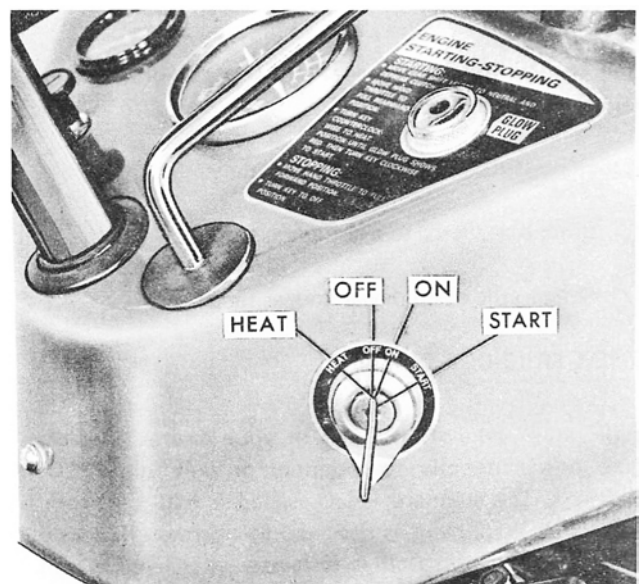

Figure 8
3. Turn the key starter switch to the "start" position, Figure 8. When the engine starts, release the key. Check to be sure the warning lights go out. If the engine fails to start after cranking for approximately 10 seconds, refer to the following "COLD WEATHER STARTING" information.
3. Turn the key starter switch to "heat" to pre-heat the pre-combustion chamber and wait until the glow plug indicator, Figure 8, shows red (approximately 30 seconds).
Push the hand throttle fully forward past idle position to stop the engine, then turn the key-starter switch, Figure 8, to the "Off" position.